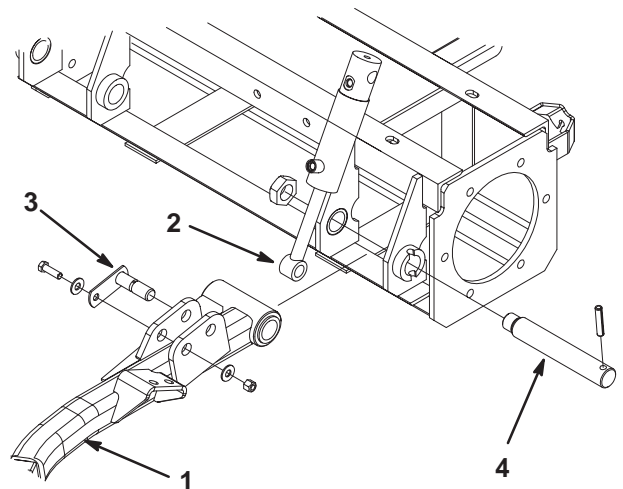

Figure 7
13. Remove fasteners securing cylinder pin to lift arm. Remove cylinder pin and disconnect cylinder end from lift arm (Fig. 7).
14. Remove nut securing lift arm pin to frame (Fig. 7).